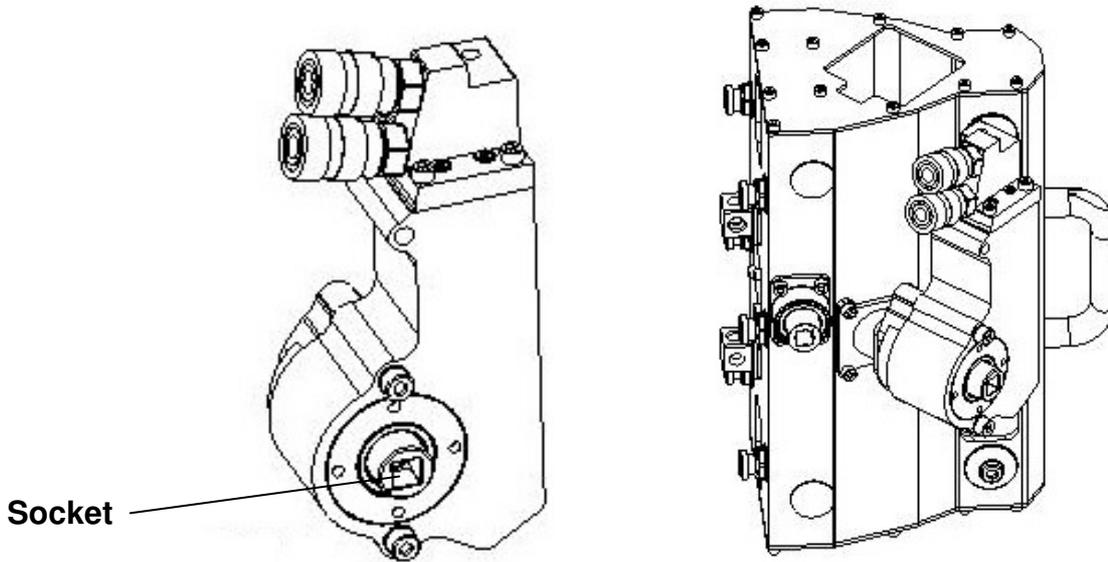

Fig. 12. Hydraulic feed unit-HF and carriage-CE1 with the hydraulic feed unit mounted
5. Tighten the socket (se fig.12) on the hydraulic feed unit before hydraulic feeding is started. Do not overtighten the socket!!!